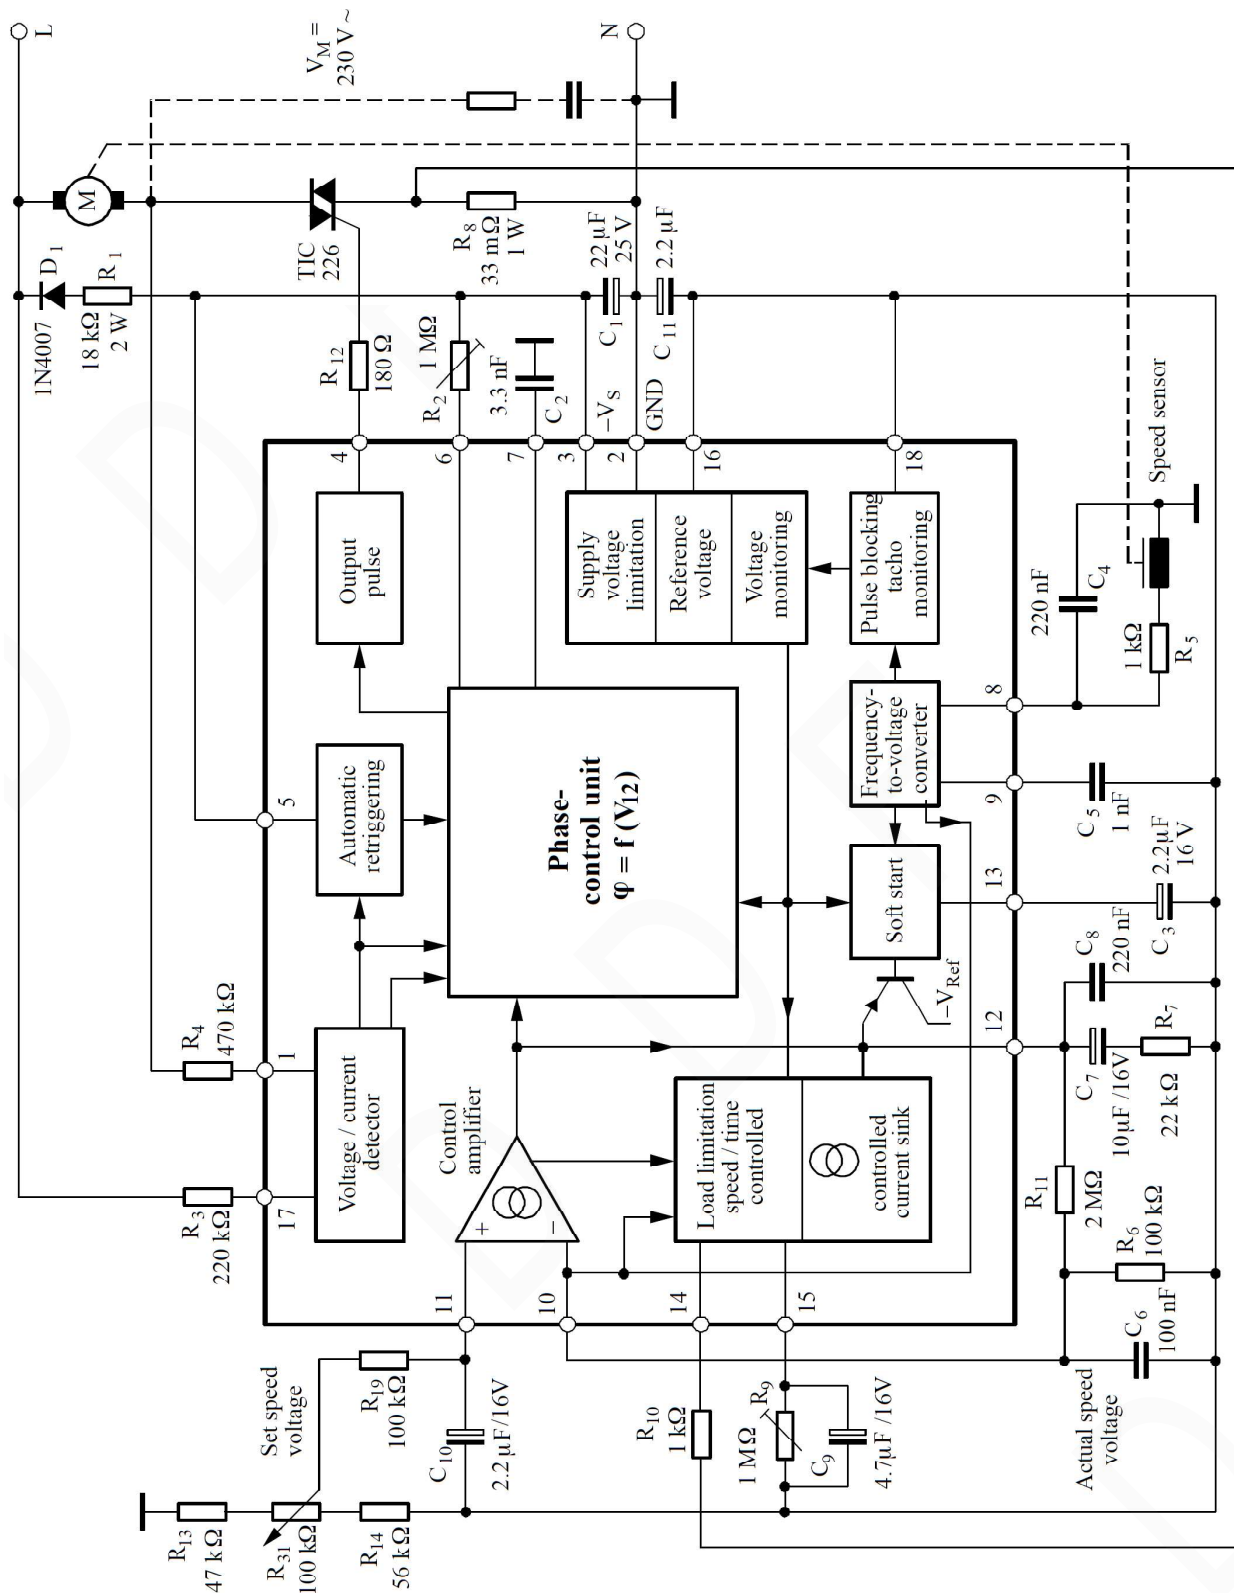

Figure 1-17. Speed Control, Automatic Retriggering, Load Limiting, Soft Start
The switch-off level at maximum load shows in principle the same speed dependency as the original version (see Figure 1-17 on page 10), but when reaching the maximum load, the motor is switched off completely. This function is effected by the thyristor (formed by T1 and T2) which ignites when the voltage at pin 15 reaches typically 7.4 V (reference point pin 16). The circuit is thereby switched to standby mode over the release Pin 18.
The maximum load regulation shows in principle the same speed dependency as the original version (see Figure 1-17 on page 10). When reaching the maximum load, the control unit is turned to α_{max} , adjustable with R2 . Then, only I_o flows. This function is effected by the thyristor, formed by T1 and T2 which ignites as soon as the voltage at pin 15 reaches approximately 6.8 V (reference point pin 16). The potential at pin 15 is lifted and kept by R14 over the internal operating threshold whereby the maximum load regulation starts and adjusts the control unit constantly to α_{max} (IO), inspite of a reduced load current. The motor shows that the circuit is still in operation by produceing a buzzing sound.
The integrated control amplifier (see Figure 1-17 on page 10) with differential input compares the set value (pin 11) with the instantaneous value on pin 10, and generates a regulating voltage on the output pin 12 (together with the external circuitry on pin 12). This pin always tries to keep the actual voltage at the value of the set voltages. The amplifier has a transmittance of typically $1000\text{ }\mu\text{A/V}$ and a bipolar current source output on pin 12 which operates with typically $\pm 110\text{ }\mu\text{A}$. The amplification and frequency response are determined by R7, C7, C8 and R11 (can be left out). For open-loop operation, C4, C5, R6, R7, C7, C8 and R11 can be omitted. Pin 10 should be connected with pin 12 and pin 8 with pin 2. The phase angle of the triggering pulse can be adjusted by using the voltage on pin 11. An internal limitation circuit prevents the voltage on pin 12 from becoming more negative than $V_{16} + 1\text{ V}$.